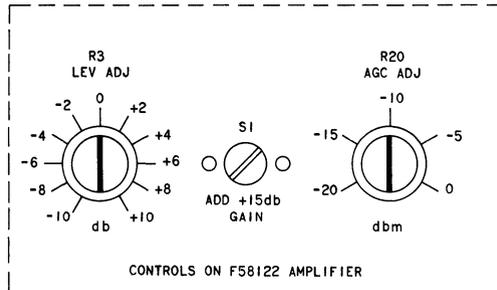

Fig. 6—Adjustment Controls on F58122 Automatic Gain Control Amplifier
7.02 Adjustments: Gain adjustments are made by means of the LEV ADJ control (R3) and switch S1 (see Fig. 6). The combined setting of these two controls provides a range of –10 to +25 dB gain. The setting of the AGC ADJ control (R20) determines the points at which clamping of the amplifier output begins. The range of the AGC ADJ control is from 0 to –20 dBm. Before making adjustments, refer to the circuit order card to determine the TLP at the input and output of the amplifier. With an input signal 10 dB below the input TLP of the amplifier, the amplifier gain must be adjusted (using LEV ADJ and S1 as required) to provide an output level which is 10 dB below the output TLP of the amplifier. The AGC ADJ control must then be adjusted to reduce the output of the amplifier by 3 dB (13 dB below output TLP). The following example shows the method of adjusting F58122 AGC amplifier for a typical input and output TLP.
- (j) Use the preceding method and refer to Fig. 6 to adjust the AGC amplifier for other TLPS.